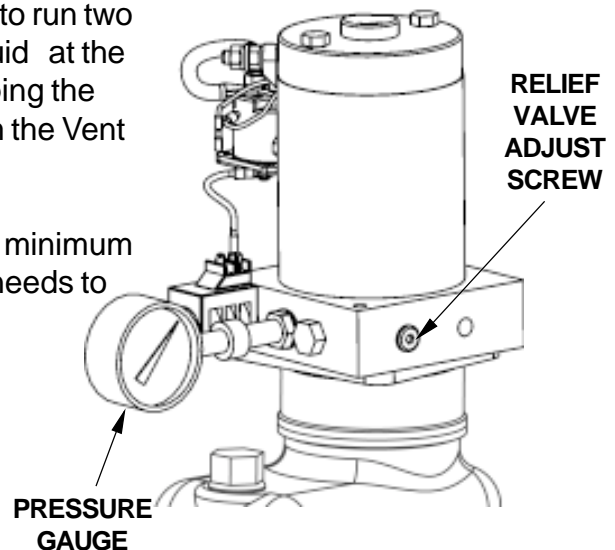

FIG. 39-2
3. With Platform on the ground, remove the pressure hose and fitting from the Pump and replace it with a 0-3000 PSI Pressure Gauge. Hold the switch in the "UP" position. Adjust the Relief Valve on the side of the Pump until the gauge shows 2800 to 3000 PSI (**FIG. 39-2**). Remove gauge and re-install pressure hose.